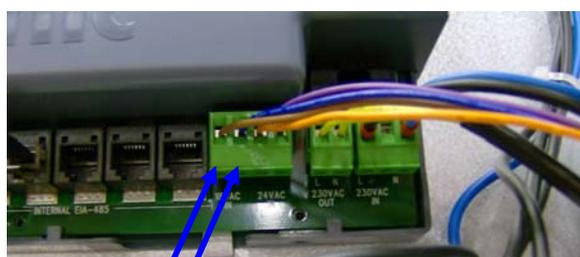

Fig. 2
- Use a voltmeter to check that there is 18 V AC input voltage between wiring terminals 62 and 63 on the control unit. See Fig. 2.